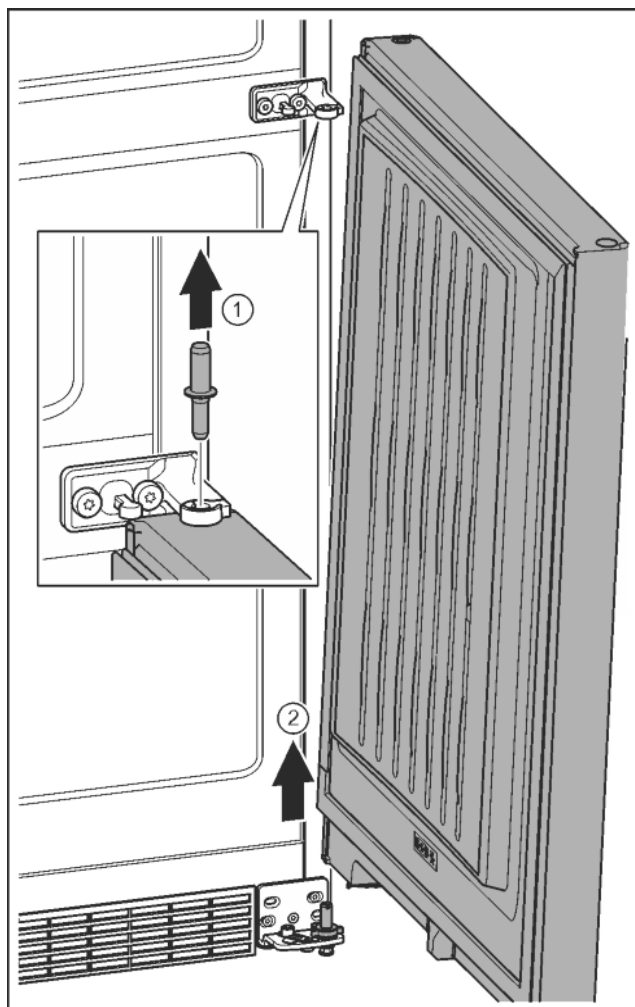

Fig. 12
- Pull out the bolts towards the top. Fig. 12 (1)
- Swing the door out, pull it upwards and set it aside. Fig. 12 (2)